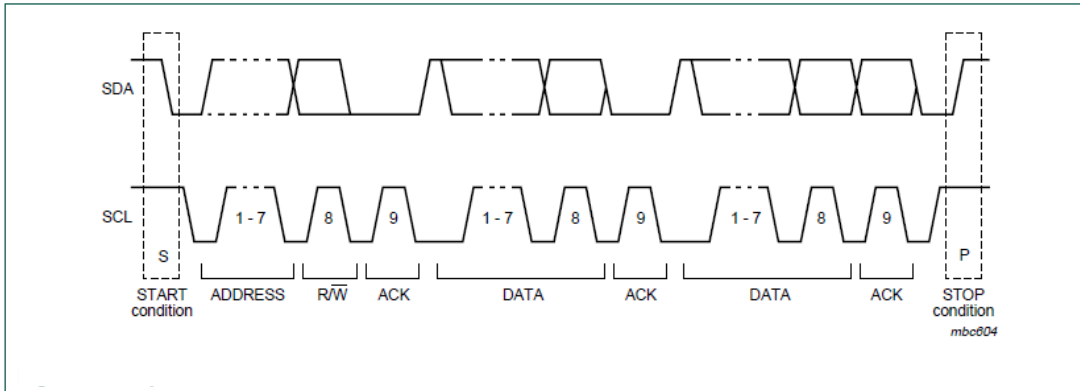
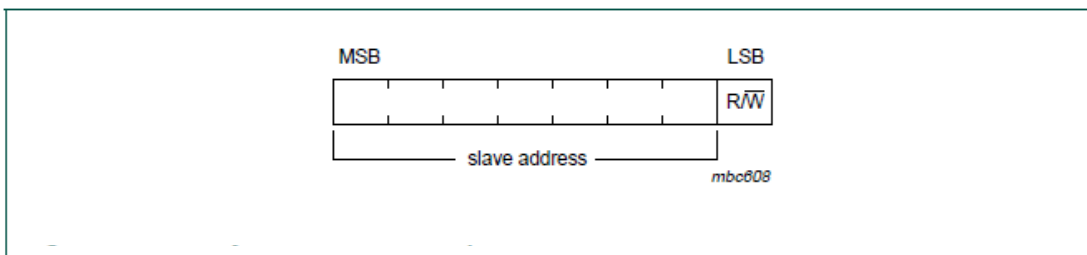

Figure 4, Complete Data Transfer Format
Figure 5, The first START byte
Data transfers follow the format shown below (Figure 4). After the START condition (S), a slave address is sent. This address is 7 bits long followed by an eighth bit which is a data direction bit (R/W)—a ‘zero’ indicates a transmission (WRITE), a ‘one’ indicates a request for data (READ). (Figure 5)